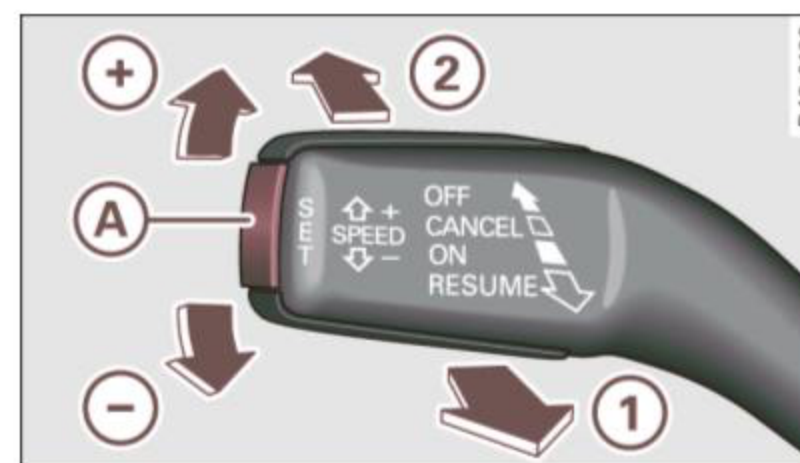

Fig. 65 Cruise control system controls
- Pull the lever to position ① ⇒ fig. 65 to switch the system on.
- Briefly press button ①.
- Press lever up towards the (+) ⇒ fig. 65.
- Press lever down towards the (-) ⇒ fig. 65.
The desired speed is increased by about 2 mph (2 km/h) by briefly pressing the lever upwards towards $\Rightarrow$ fig. 65 $\oplus$.
The desired speed is decreased by about 2 mph (2 km/h) by briefly pressing the lever downwards towards $\Rightarrow$ fig. 65 $\ominus$. ■
- Press the lever towards $\textcircled{2}$ (not latched) $\Rightarrow$ page 81, fig. 65.
If no desired speed was stored when the system was temporarily switched off, you can store a new desired speed as follows: Drive at the desired speed and briefly press button $\Rightarrow$ page 81, fig. 65 $\textcircled{A}$ (SET).
- Press lever into position $\textcircled{2}$ (latched) $\Rightarrow$ page 81, fig. 65.